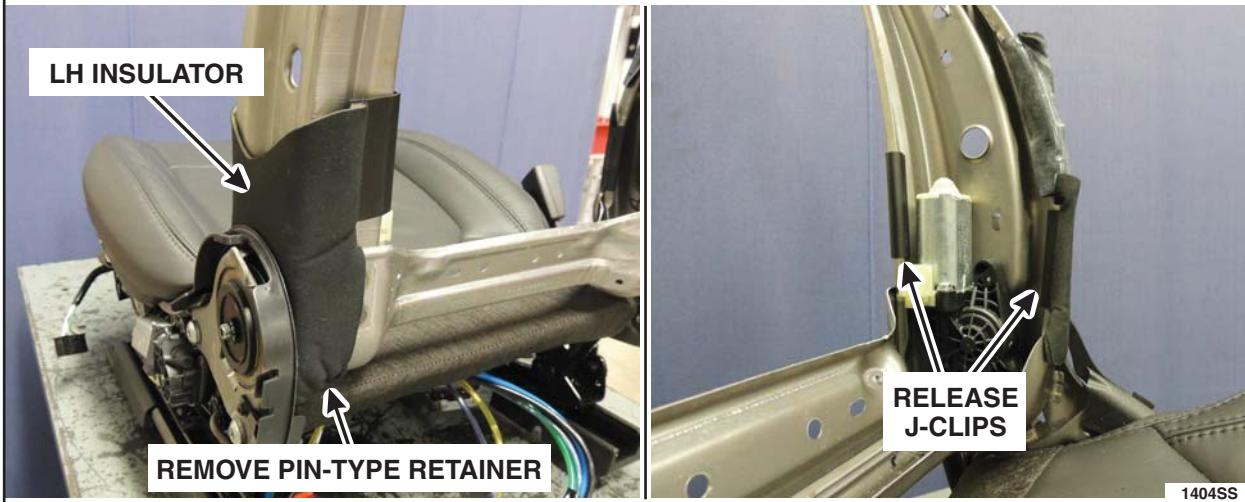

FIGURE 14
17. Remove the insulator shield from both sides of the backrest frame. See Figure 14.
5. Install the insulator shield on both sides of the backrest frame. See Figure 14.